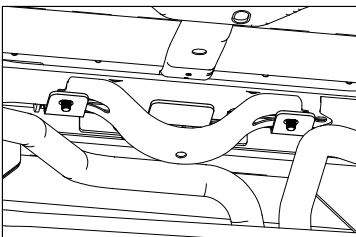
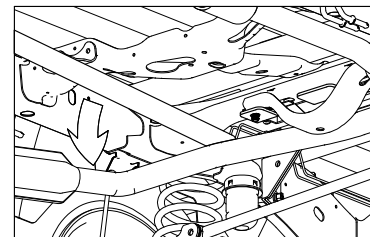

Figure F4: View under bed looking from floor to area above axle.
Figure F5: View under bed looking from floor to area above driver side exhaust pipe.
3. **Install the rear brace.** Position the two large slots over the 5/8" bolts of the bolt guides, see Figure F4. Attach the rear brace to the center section and the rear cross member with two 1/2" x 1-1/2" long bolts, lock washers and flat washers. Hand tighten only at this time. Using the 5/8" flange nuts, attach the rear brace to the frame cross member with the bolt guides. If the truck is equipped with dual exhaust, it may be helpful to pry the exhaust downward while installing the flange nut on the driver side bolt guide, see Figure F5.